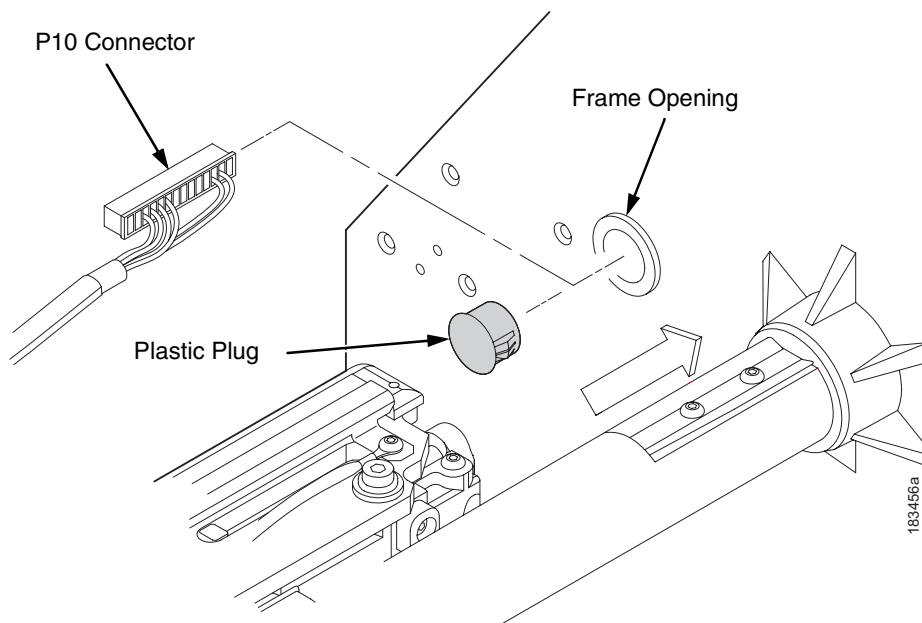

Figure 4. Routing the Power/Data Cable
7. Gently press the small wires of the P10 connector end of the power/data cable against the connector and route the connector through the frame opening. (Figure 4.)